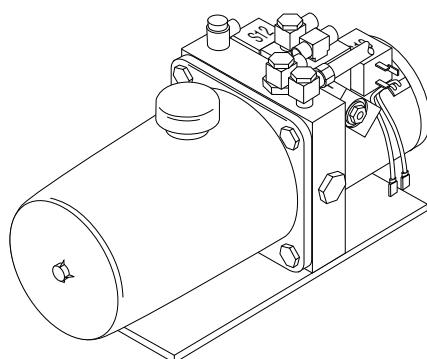

Figure 5.1 - Hydraulic Pump Relief Valve (B4 Tables)
2. Remove the cap from the pressure test port located on the pump pressure port banjo fitting (see Figure 5-1).